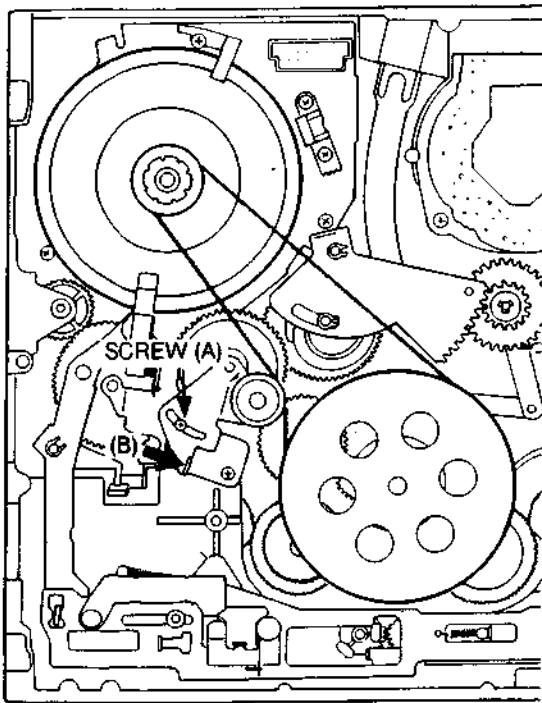

Fig. 2-1
1. Loosen screw (A) slightly by using a screwdriver.
2. Set the spring pressure meter 5322 395 84011 to the direction indicated by the arrow (B) as shown in Fig. 2-1.
3. Tighten screw (A) when the reading of the spring pressure meter 5322 395 84011 becomes within $40 \pm 5g$.